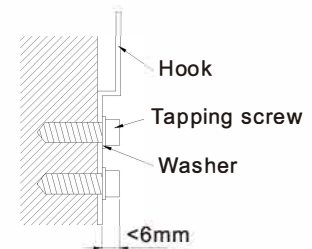

Fig 4.6
- ① Fix the hook with tapping screw onto the wall (Refer to Fig 4.6)
- ② Hang the indoor unit on the hook